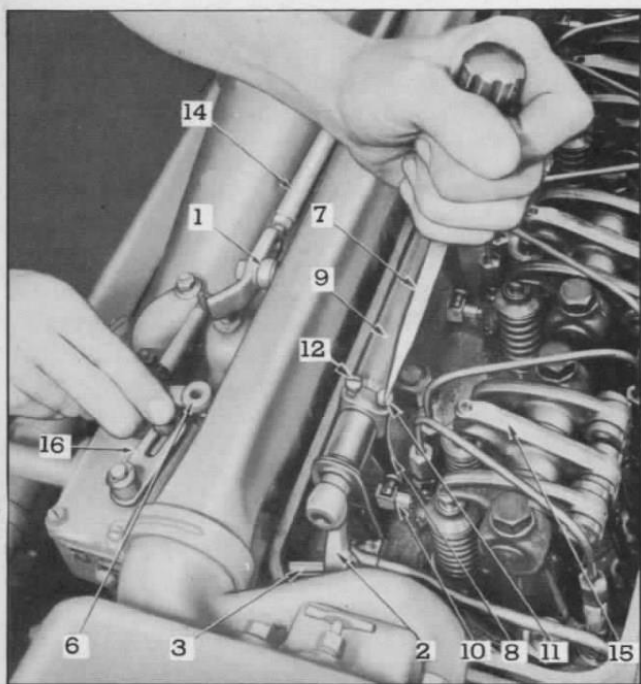

Fig. 33—Positioning Rack of No. 1 Injector on "Twin" Engine Equipped with Variable Speed Type Governor
5. Swing valve rocker assembly back into position and tighten bracket bolts (4).
6. Replace fuel lines (1).
(Injector racks way out.) Adjust screws (11) and (12), Fig. 33, in rack control lever (8) of the injector, or injectors, just installed to bring the inner shoulder of the rack coupling (10) approximately $\frac{2}{32}$ " distance from the injector body. This distance should be the same on all injectors, the one, or ones, just installed as well as the ones that have not been removed.
1. With engine stopped, disconnect linkage to the governor shutdown lever (6), Fig. 33, and remove governor control housing cover assembly.
2. Secure the speed control lever (3) in the maximum speed position—all the way back.
3. With a feeler gauge, check clearance between shoulder of spring plunger (7) and plunger guide (16). This clearance should measure from .005" to .007".
4. If clearance is correct, install control housing cover. If adjustment of the gap is required, loosen gap adjusting screw lock nut (17) and turn gap adjusting screw (2) as required to establish clearance within the correct dimensions of .005" to .007". Tighten lock nut and recheck gap.
justing screws (11) and (12) in rack control lever (8) at the injector being adjusted. (See Fig. 33.)
- Secure the speed control lever (1) in the FULL OPEN position (all the way back), as shown in Fig. 33, and hold shutdown lever (6) in the RUN position at the end of the governor cam (16). Adjust rack control lever (8) to the FULL IN position, to correspond with that of the other injector racks, by slowly turning down inner adjusting screw (11) until injector rack can just be felt striking "bottom" and just before the racks of the other injectors start moving outward.
- After setting the governor spring plunger gap as outlined under "VI" above, refer to Fig. 33 and set the injector rack on No. 1 Cylinder by backing out governor buffer screw (4) until it projects about $\frac{5}{8}$ " from the governor housing.
- Back off several turns on both adjusting screws (11) and (12) of all rack control levers (8). Outer screw (12) on No. 1 lever should be backed off several additional turns. Be sure *all* levers are free to rotate on shaft.
- Secure the speed control lever (1) in the FULL OPEN position (all the way back) as shown in Fig. 33. Place shutdown lever (6) in the OFF position.
- Turn down inner adjusting screw (11) on No. 1 injector rack control lever (8) until screw "bottoms".
- Move the governor shutdown lever (6) toward the RUN position at the end of the governor cam (16) as shown in Fig. 33. Do not force it past the point at which resistance to movement suddenly increases, but hold it at this point, pressing lightly toward the RUN position.
- Back off the inner adjusting screw (11) on No. 1 injector rack control lever which will allow the shutdown lever (6) to move toward the RUN position. Continue backing out screw until the lever (6) just "bottoms" at the end of the governor cam.
- Turn down *outer* adjusting screw (12) to lock rack control lever (8) in position. Tighten inner adjusting screw (11). This should accomplish the desired setting of No. 1 injector rack control lever (8).
- Check the adjustment by holding the governor shutdown lever (6) in the RUN position (to aft end of slot in cam (16), as shown in Fig. 33), then note rotary movement of No. 1 injector rack to rack control lever (8).
- a. If a light pressure of the finger tip shows the rack to be tight, and the governor shutdown lever (6) is free to travel to the extreme end of the slot in the governor cam (16) without encountering any step-up in resistance, *the rack control lever (8) has been properly adjusted.*
- b. If a light pressure of the finger tip shows the injector rack to be tight and the governor shutdown lever (6) is not free to travel to the extreme end of the slot in cam (16), unless the step-up in resistance is overcome, the rack is too tight and the adjustment should be corrected by loosening the inner screw slightly and tightening the outer screw.
- (a) Secure the governor shutdown lever (6) in the RUN position.
- (b) Adjust No. 2 injector rack by turning down inner adjusting screw (11) while finger tip is touching No. 2 injector rack coupling. When coupling loses its rotary movement, tighten outer screw (12) and relock with inner screw (11).
- (e) Reconnect linkage to the governor control lever (6).